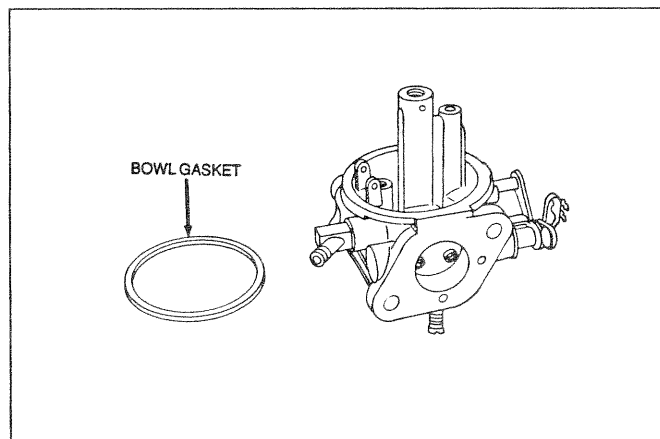

Figure 127. Bowl Gasket Removal
- Remove the carburetor bowl gasket (Figure 127).